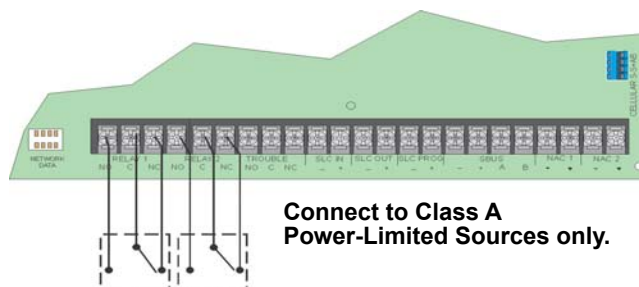

Figure 4.26 Location of Conventional Relay Circuits
1. Wire Relay 1 and/or Relay 2 as needed for your application. See Figure 4.26 for the location of the relay terminals.